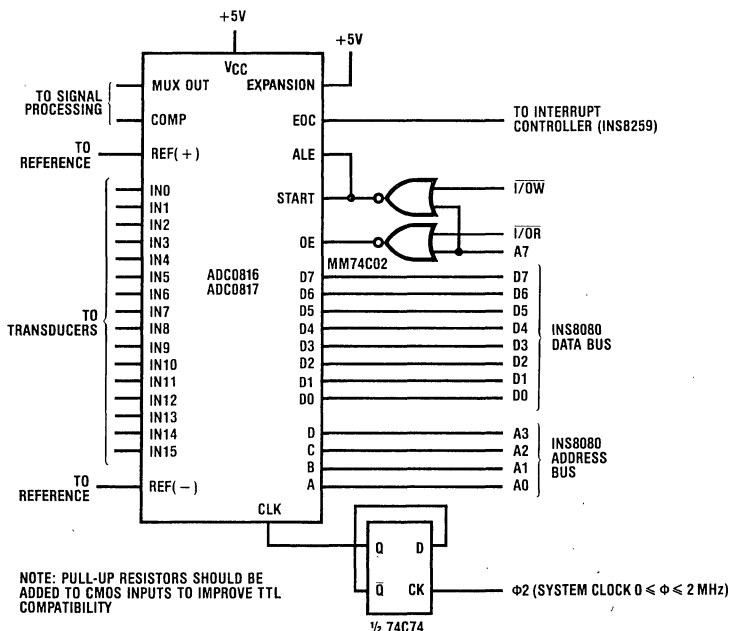
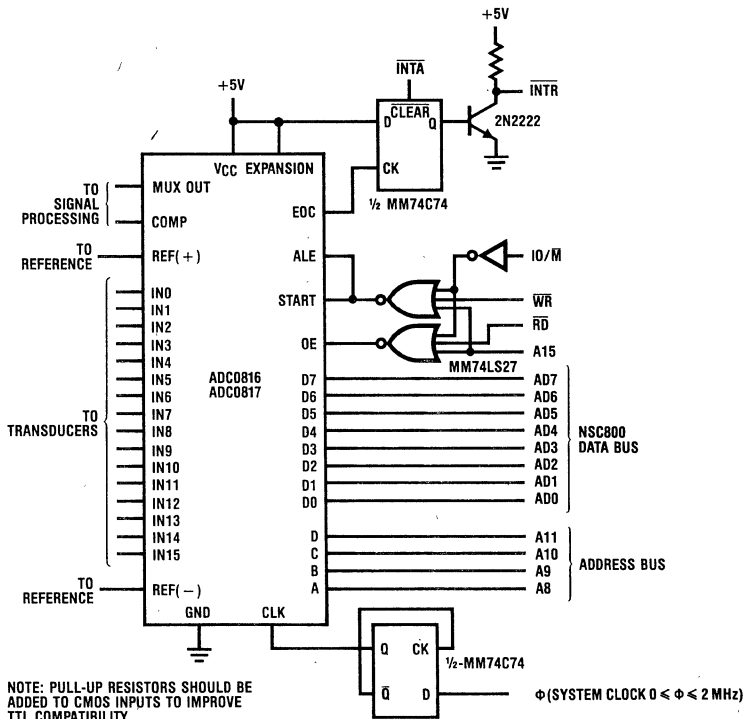

Figure 23. Simple INS8080/8224/8228 to ADC0816/ADC0817 Interface
Figure 28. Minimal NSC800 to ADC0816/ADC0817 Interface
Interfacing the ADC0816/ADC0817 to an INS8080 system is extremely simple, because the INS8080/INS8224/INS8228 CPU group have separate I/O read (I/OR) and I/O write (I/OW) strobes which imply that the INS8080 has separate I/O addressing. In small systems this means that very little or no address decoding is necessary. Figure 23 shows a very simple interface which uses two NOR gates to gate the I/O strobes with the most significant address bit A7. The INS8080 has 8 bits of port address which will yield a maximum of 4 I/O ports if inputs A, B, C, and D are connected to the address bus. A MM74C74 flip-flop is used as a divide-by-2 to generate a converter clock of 1MHz. If the INS8080 system clock is  $\leq 1$ MHz this flip-flop is unnecessary.
*Figure 26* uses a 6 bit comparator to decode A4-A7 and  $\overline{I/O}REQ$ . Two NOR gates are used to gate the ALE/START and OE pulses. This design functions the same as *Figure 23* except that the DM8131 provides much more decoding.
The next design, *Figure 28*, uses the same simple NOR gating scheme as *Figure 23*, except the NSC800 control signals are slightly different. A simple interrupt scheme for EOC is employed using an MM74C74. When EOC goes high the flip-flop is set and INTR goes low. When the NSC800 acknowledges the interrupt by lowering INTA, the flip-flop will reset. If more than one interrupt can occur simultaneously either INTA should be gated with EOC, or some other signal instead of INTA must be used. This is required since it is possible for the NSC800 to detect another interrupt and clear the ADC0816/ADC0817 interrupt before it's detected.